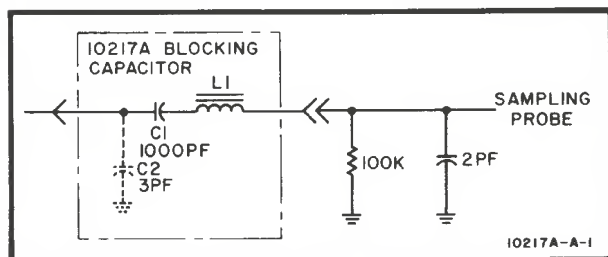

Figure 2. Model 10217A Blocking Capacitor Schematic
8. The schematic of the Model 10217A is shown in Figure 2. The blocking capacitor is a 0.001- μ F low-inductance capacitor which is used to keep dc potentials in the circuit under test from reaching the vertical amplifier. It is capable of blocking ± 100 volts dc from